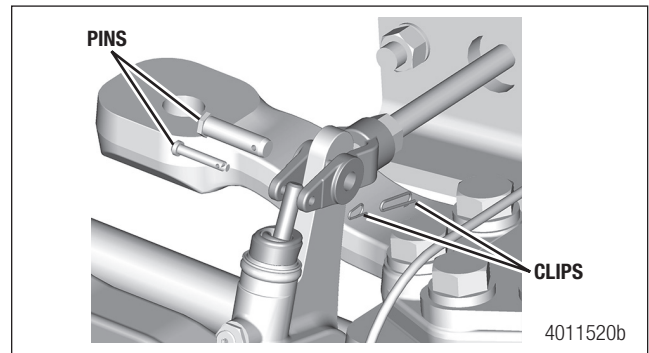

Figure 8.37
5. Install the pin and retainer that engages the push rod yoke and the slack adjuster plunger rod. Figure 8.37.